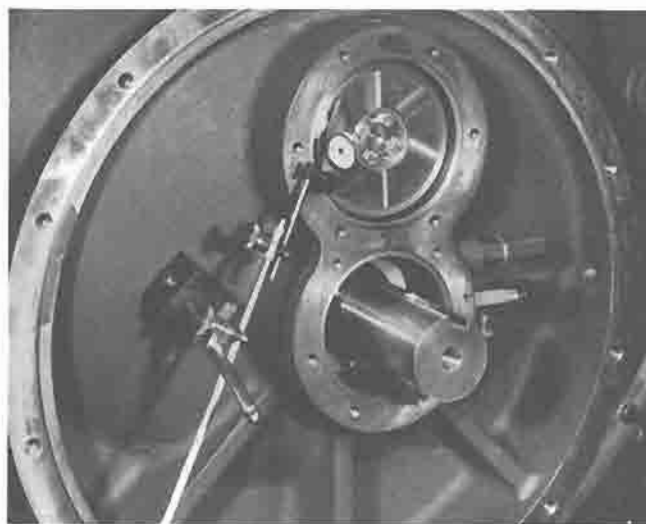

FIG. 27 – CHECKING HIGH-SPEED THRUST COLLAR RUN-OUT. MAX = .001" T.I.R.
2. Before removing the high-speed thrust collar it is advisable to measure the run-out. Mount a dial indicator as shown in Fig. 27 and rotate the compressor shafts. Maximum allowable run-out is .001".
4. Remove the gear locking tool. Mount a dial indicator as shown in Fig. 27 and rotate the shafts to measure the run-out on the thrust collar. Maximum allowable run-out = .001".